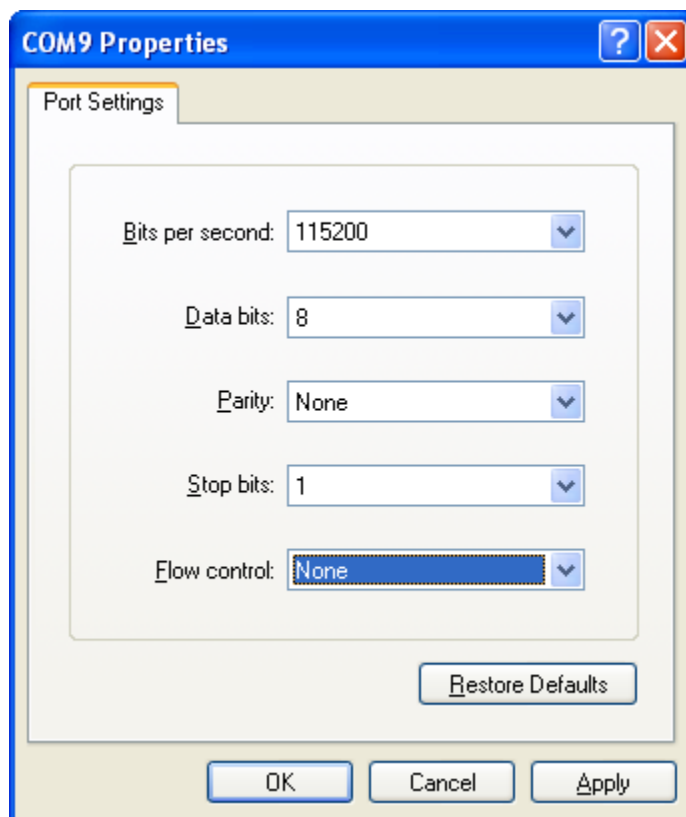

Figure C-7. COM9 properties
6. Configure the virtual COM port baud rate and other properties as shown in Figure C-7.